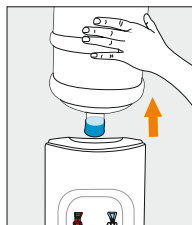

Figure 9
5.2 Remove bottle from reservoir. (Figure 9)